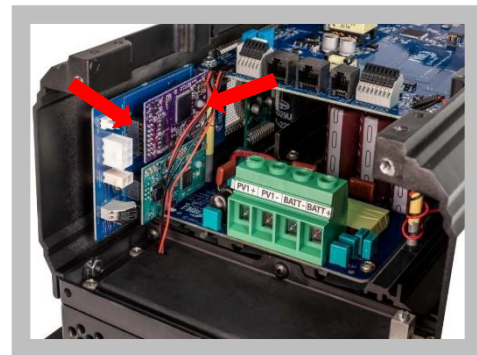

Figure 7
1. The AF/GF sub-board (purple) connects to the top half of the Options Board. (**Figure 7**)